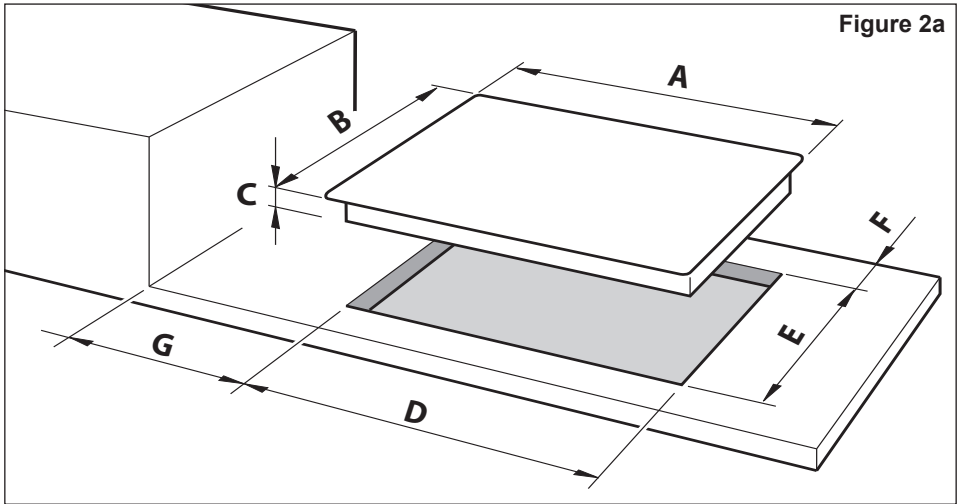

Figure 2a
The installation shall comply with the dimensions in figs.2a, 2b, 2c, 2d bearing in mind that:
- Cut the unit according to the dimensions in fig. 2a.